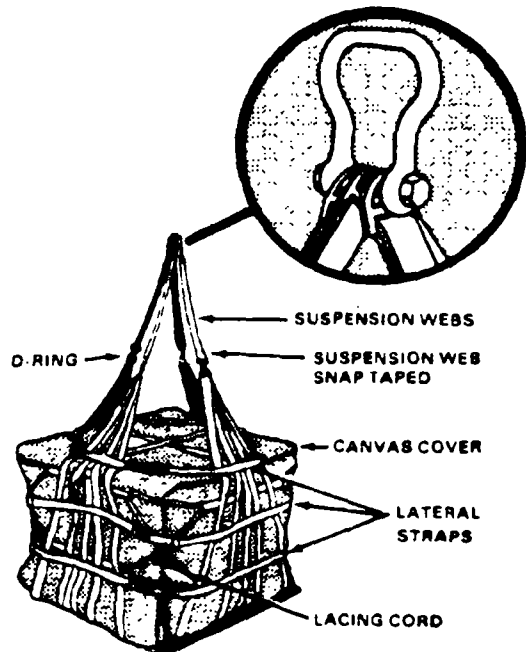

Figure 1-6. Upper Sling and Medium Clevis
Step 10 - Attach the four suspension web strap D-rings to a medium clevis in a clockwise sequence. Each strap can have a maximum of one twist to connect to the clevis (Figure 1-6).